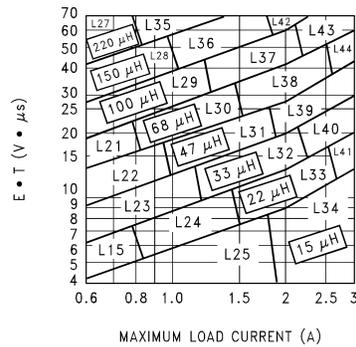

Figure 12. LM2596-ADJ
<p>2. Inductor Selection (L1)</p> <p>A. Calculate the inductor Volt • microsecond constant $E \cdot T$ ($V \cdot \mu s$), from the following formula:</p> $E \cdot T = (V_{IN} - V_{OUT} - V_{SAT}) \cdot \frac{V_{OUT} + V_D}{V_{IN} - V_{SAT} + V_D} \cdot \frac{1000}{150 \text{ kHz}} (V \cdot \mu s) \quad (4)$ <p>where V_{SAT} = internal switch saturation voltage = 1.16V and V_D = diode forward voltage drop = 0.5V</p> <p>B. Use the $E \cdot T$ value from the previous formula and match it with the $E \cdot T$ number on the vertical axis of the Inductor Value Selection Guide shown in Figure 12.</p> <p>C. on the horizontal axis, select the maximum load current.</p> <p>D. Identify the inductance region intersected by the $E \cdot T$ value and the Maximum Load Current value. Each region is identified by an inductance value and an inductor code (LXX).</p> <p>E. Select an appropriate inductor from the four manufacturer's part numbers listed in Table 3.</p>	<p>2. Inductor Selection (L1)</p> <p>A. Calculate the inductor Volt • microsecond constant ($E \cdot T$),</p> $E \cdot T = (28 - 20 - 1.16) \cdot \frac{20 + 0.5}{28 - 1.16 + 0.5} \cdot \frac{1000}{150} (V \cdot \mu s)$ $E \cdot T = (6.84) \cdot \frac{20.5}{27.34} \cdot 6.67 (V \cdot \mu s) = 34.2 (V \cdot \mu s) \quad (5)$ <p>B. $E \cdot T = 34.2 (V \cdot \mu s)$</p> <p>C. $I_{LOAD(max)} = 3A$</p> <p>D. From the inductor value selection guide shown in Figure 12, the inductance region intersected by the 34 ($V \cdot \mu s$) horizontal line and the 3A vertical line is 47 μH, and the inductor code is L39.</p> <p>E. From the table in Table 3, locate line L39, and select an inductor part number from the list of manufacturers part numbers.</p>